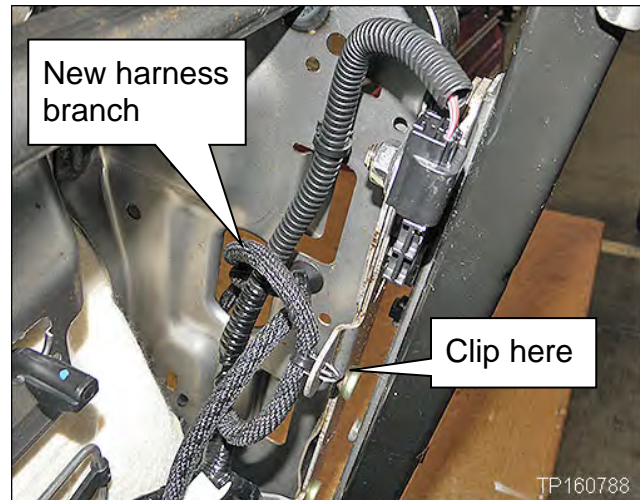

Figure 10
12. **For Manual Seat;** attach the clip of the new harness branch where shown in Figure 10.